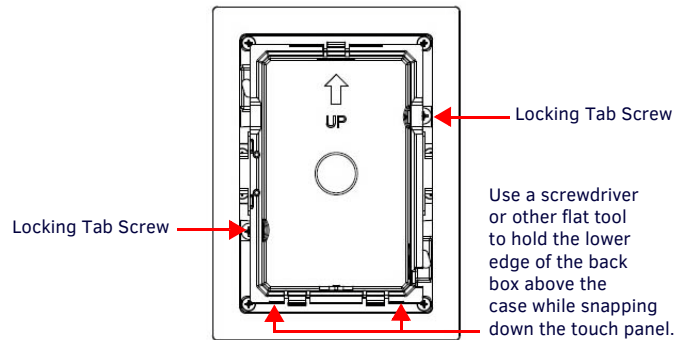

FIG. 3 LOCKING TAB LOCATION ON THE MXA-FMK-43
4. Push the FMK flat into the mounting surface and secure with the locking tabs (FIG. 3).